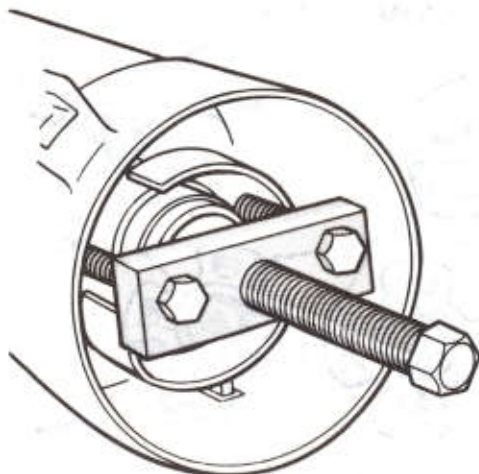

Fig. 12—Remove Shift Tube from Bowl
(20) Remove shift tube retaining ring with screwdriver. Remove thrust washer.
(21) Using a small screwdriver carefully disengage the plastic shift tube support from the lower end of the jacket.
(22) Remove shift tube from bowl using Tool C-4120 (Fig. 12). Insert bushing on end of tool in shift tube and force tube out of bowl. **Do not hammer or pull on lower or upper shift tube because plastic joint may be sheared.**
(23) Remove shift tube from jacket from lower end.
(24) Remove lock plate by sliding out of jacket notches and tipping down toward bowl hub at the 12 o'clock position and under jacket opening. Remove wave washer.
(25) Remove bowl from jacket. Remove shift lever spring from bowl by winding spring up with pliers and pulling out.